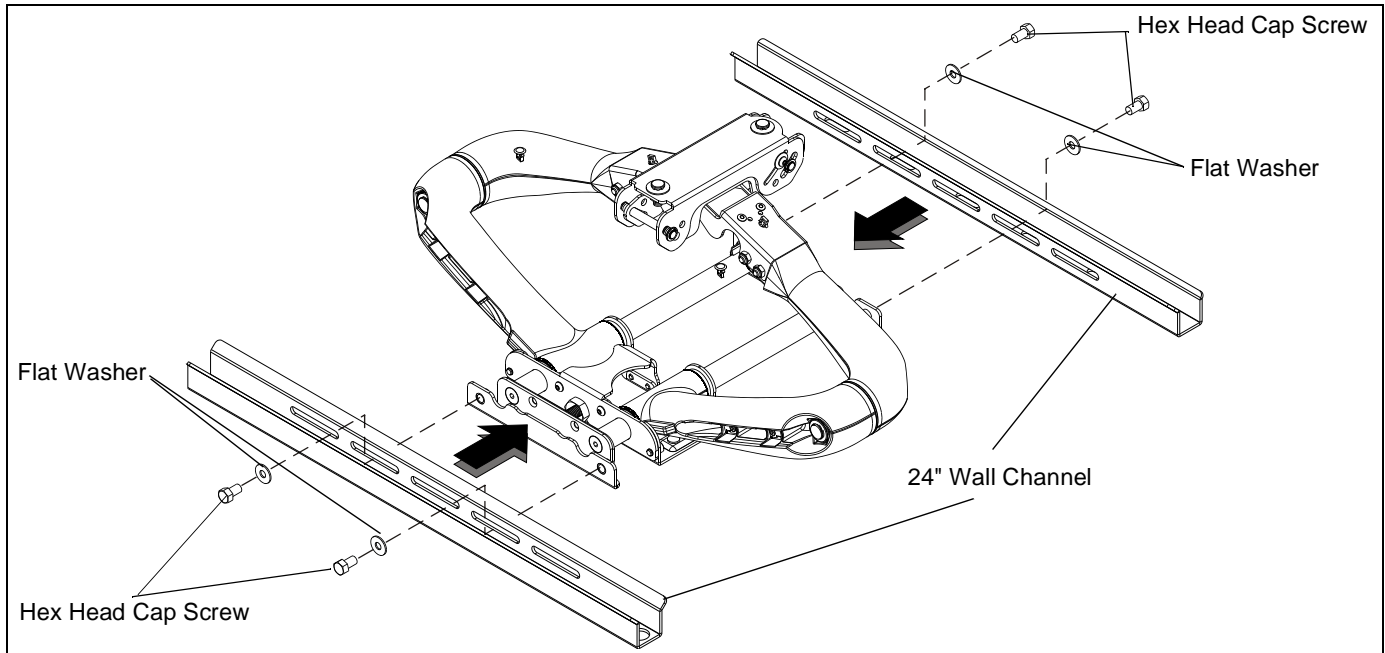

Figure 4: Install 24" Wall Channel
1. Secure 24" upper and lower wall channels to mount using four FW and four BHCS set aside during 16" wall channel removal. (See Figure 4)